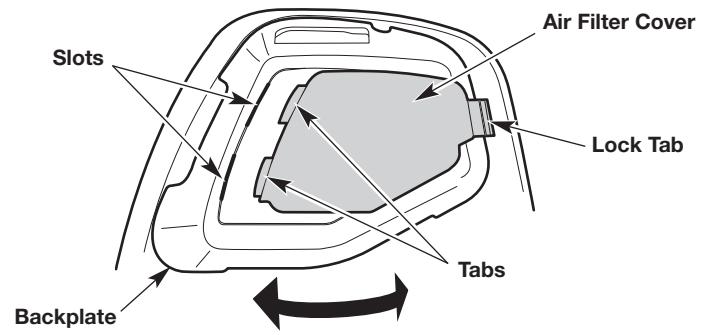

Fig. 37
1. Open the air filter cover: press in the lock tab and swing the air filter cover to the left (Fig. 37).
7. Close the air filter cover: insert the tabs on the air filter cover into the slots on the backplate. Swing the air filter cover to the right and press it closed until the lock tab snaps into place (Fig. 37).